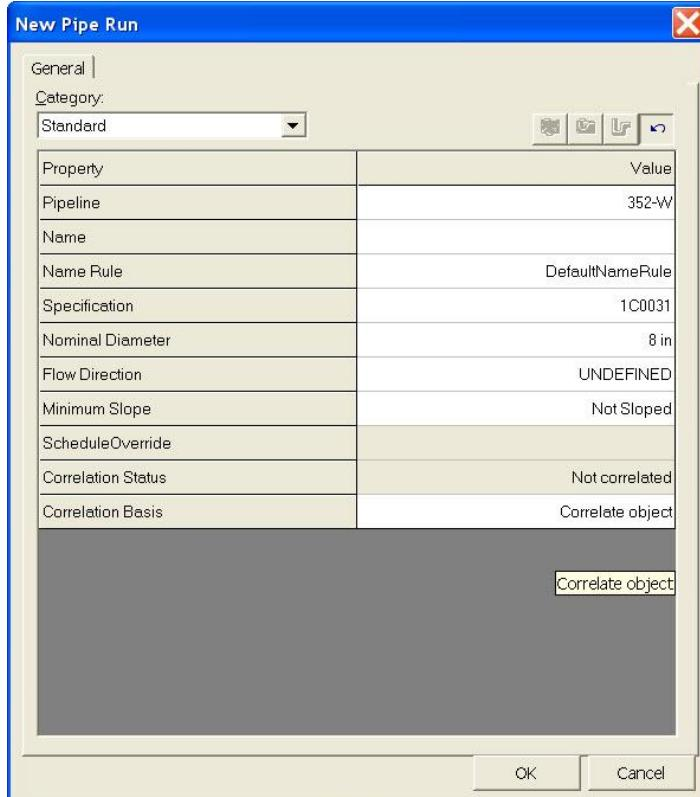

Figure 14. 12: New Pipe Run Dialog
- Select the Plan Plane icon to lock the path the arc piping will take. Left click in the graphical display at any point to accept the arc path similar to Figure 14. 13. The length of the route will be established next.